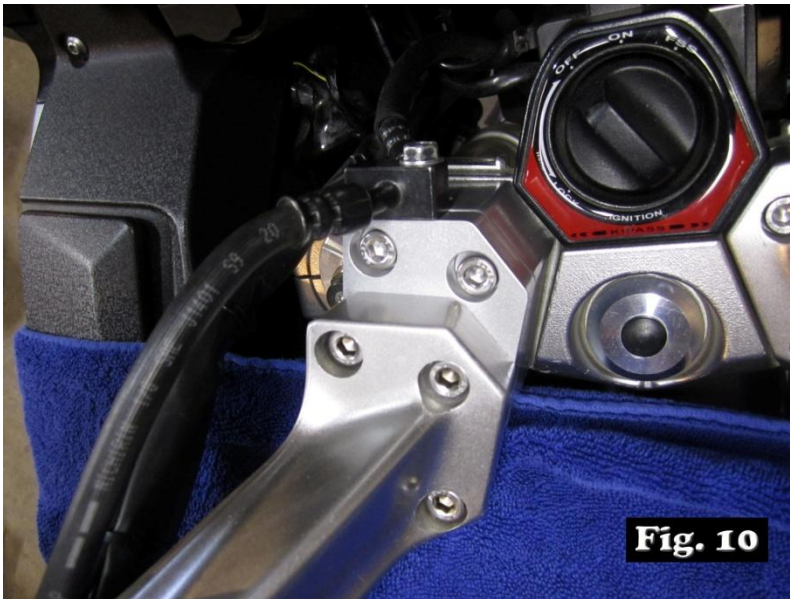

Fig. 10
- 10) Now attach the clutch junction block to your standard risers or to the Riser Adapters. **(Fig. 10)** This is determined by the height of your standard risers. When using 2 inch risers, you'll want to attach the junction blocks to the Riser Adapters. When using smaller standard risers, you can choose which to attach to based on the amount of tension on the lines when installed. Choose the one with the least amount of tension. Using the stock bolts, place the bolt through the hole in the junction block and torque the bolt to 8 ft/lbs